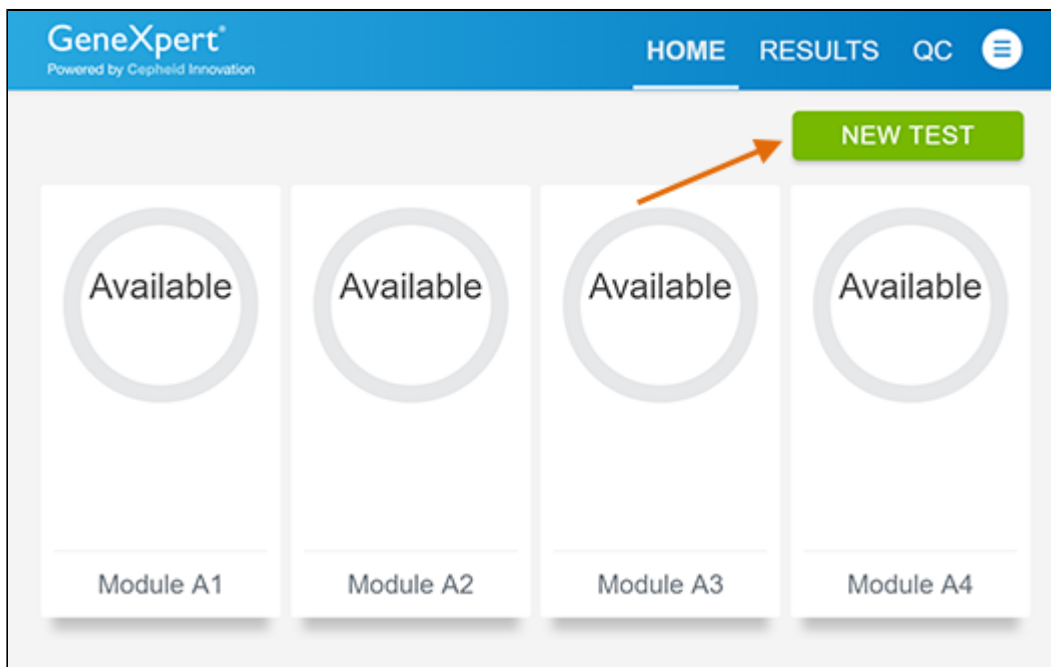

Figure 9. Home Screen
7. Touch the **QC** button on the **HOME** screen (see Figure 9).